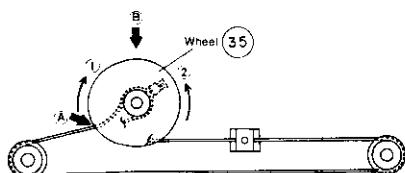

Figure 13
- Place the Wheel (35) to the Shaft (36), and rotate the wheel clockwise until the starting point of the wire (slit on pulley) comes to the Point A (Fig. 13).
- Rotate the Wheel (35) then counterclockwise until the